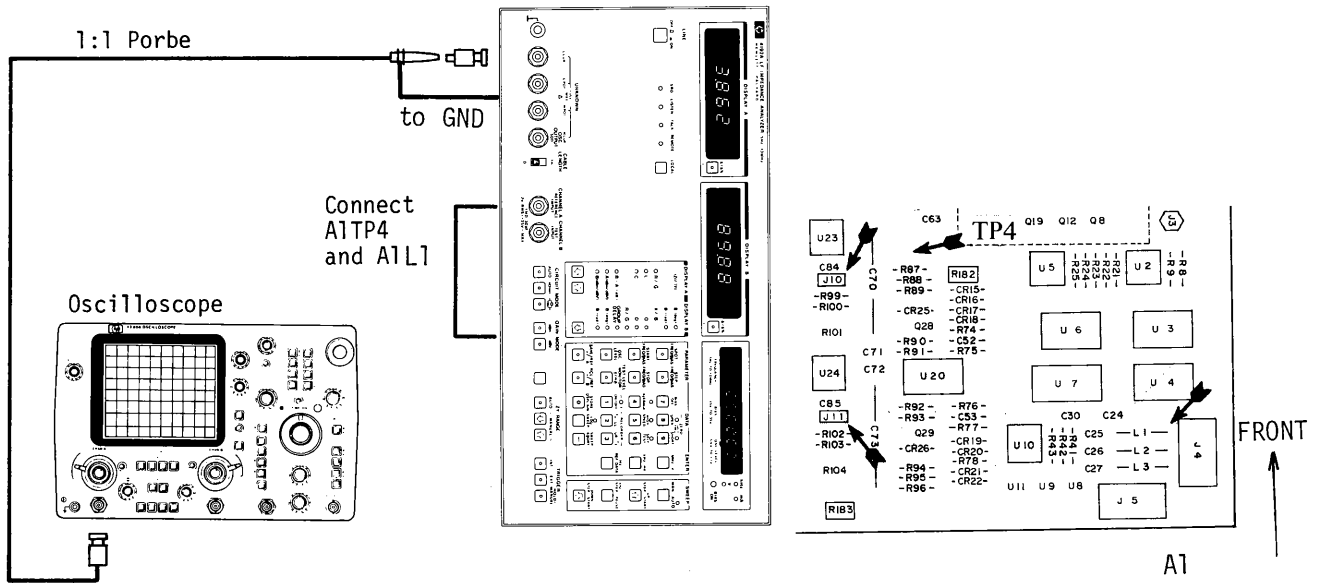

Figure 5-15. A1 LCUR Amplifier Phase Adjustment Setup.
- d. Connect the 50Ω termination to the LCUR terminal on the 4192A and connect oscilloscope input to the outer conductor of the 50Ω termination as shown in Figure 5-15.